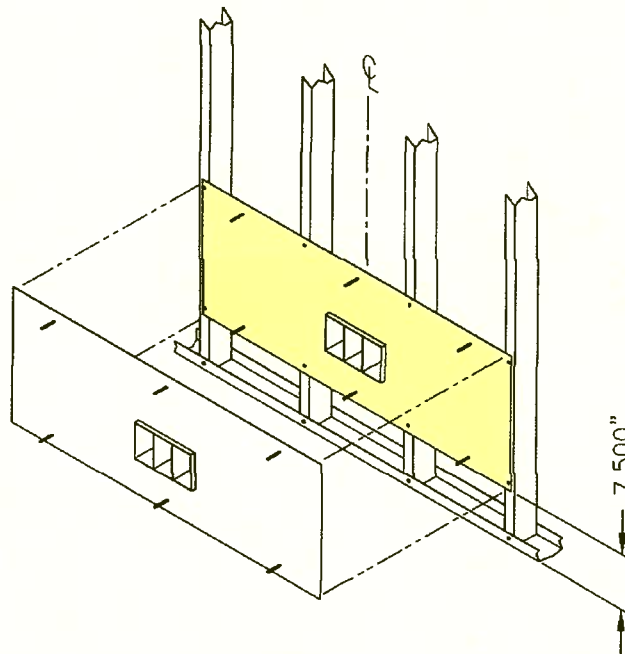

Figure 1
Mount the rough-in bracket so that the bottom of the bracket is 7.5" (190)mm above the floor. Attach the mounting bracket to the studs with sheet metal or TEC screws [not provided]. See Figure 1 for detail. Electrical junction boxes are integral with the rough-in bracket and locate the electrical and communication entrances. Install conduit in appropriate box. Be sure to follow the order of conduit. $\frac{3}{4}$ -1" combination knockouts are provided on the top and bottom of each compartment. Normally the order of the boxes is [R to L] Low Voltage, Emergency Power, and Normal Power. Check the approved submittal drawings for any variation. The rough-in bracket is screwed to the front of the vertical studs. Note that there are four $\frac{1}{4}$ -20 bolts attached to the bracket. These will eventually be used to mount the Bed Bumper/Locator. The threaded portion of the bolts, point into the room. Refer to Figure 2.